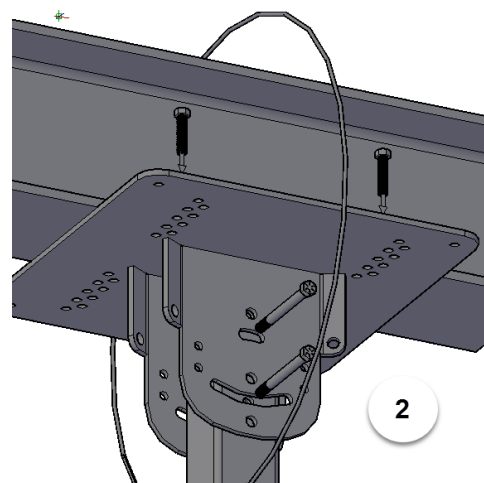

Fig.7-Attaching Steel Downrod
2. Attach and fasten the steel downrod using (2)  $\frac{1}{2}$ -13 x  $4\frac{1}{2}$ " Grade 5 HHCS, (2)  $\frac{1}{2}$ -13 Grade 5 Nylon Lock Nuts and (4)  $\frac{1}{2}$ " flat washers. Secure as shown in Figure 7.